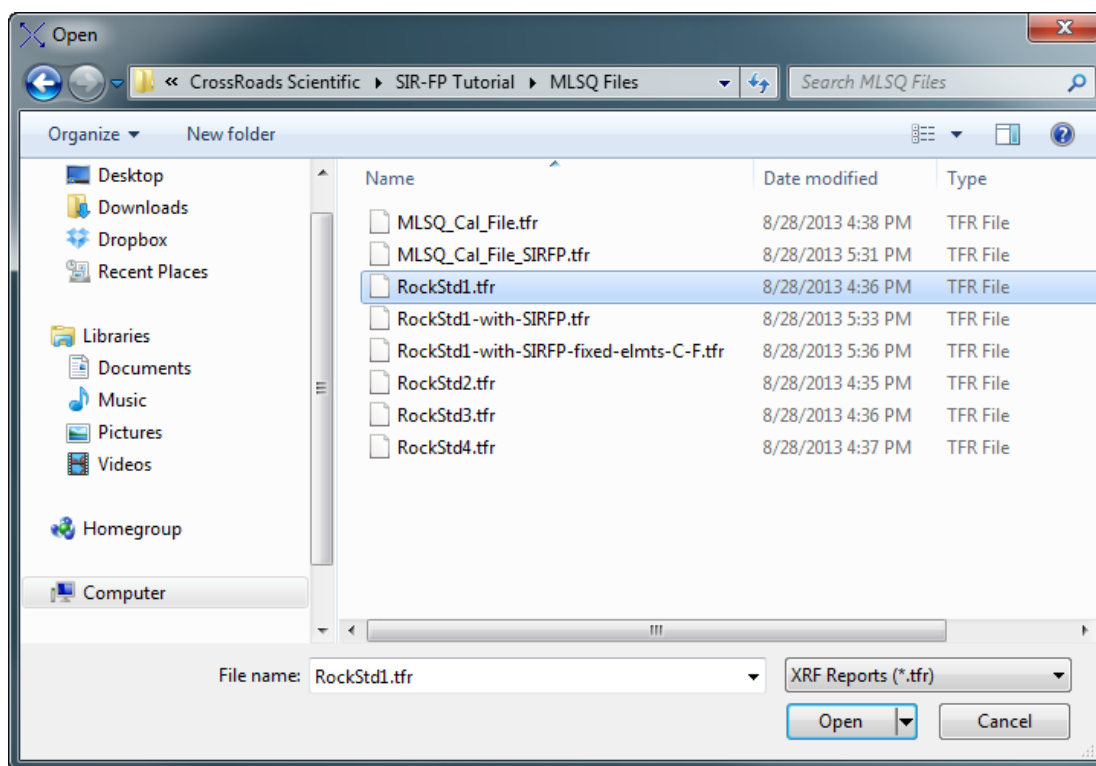

Figure 1. File Open Menu. Open the first MLSQ TFR file, e.g. “RockStd1.tfr”.
2. From the XRS-FP Expert Panel: Select **File -> Open -> “C:\CrossRoads Scientific\SIR-FP Tutorial\MLSQ Files\RockStd1.tfr”** (or equivalent file location). See Figure 1 below.